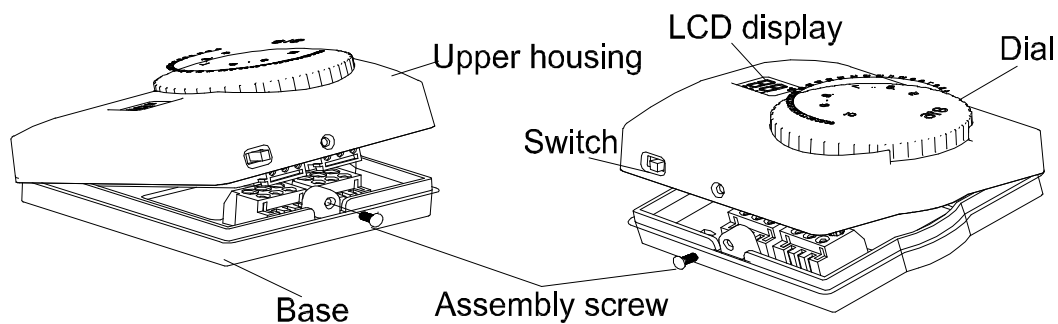

Figure 1
1. Remove assembly screws from the base of thermostat. Gently pull the upper housing straight off the base. Forcing or prying on the thermostat will cause damage to the unit. See figure 1.